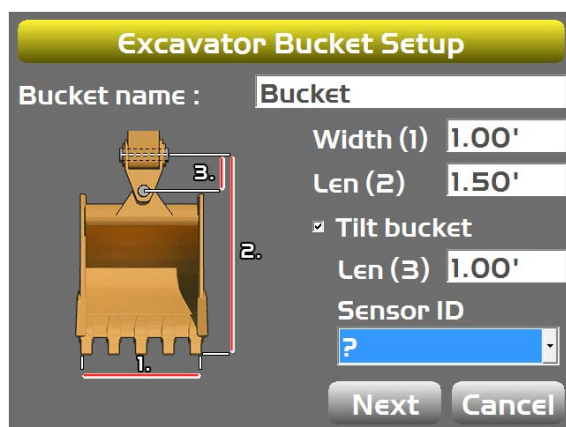

Figure 52: Bucket Setup
11. Tap **OK**; the **Excavator Bucket Setup** screen appears (Figure 52).